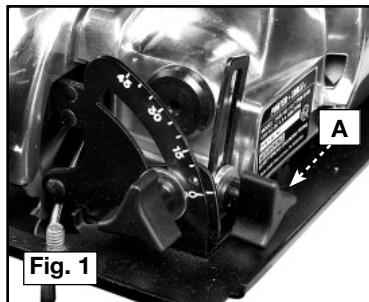

Fig. 1
Loosen the depth-adjusting knob (A) Fig. 1, and raise or lower the saw housing until the blade extends the desired distance below the base. For best results, the blade should barely protrude through the workpiece. Firmly tighten the knob to hold the saw in position.